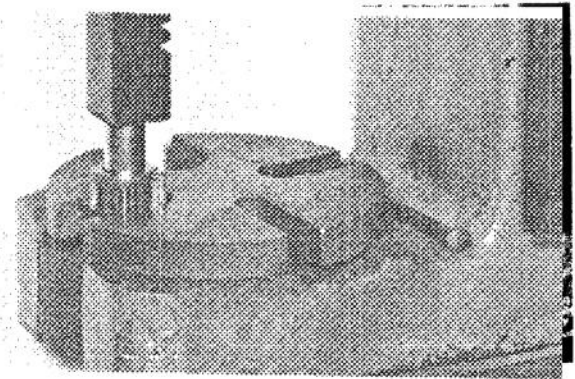

Figure 27
10. Remove needle bearing from ratchet gear using a sleeve and arbor press (Fig. 27).